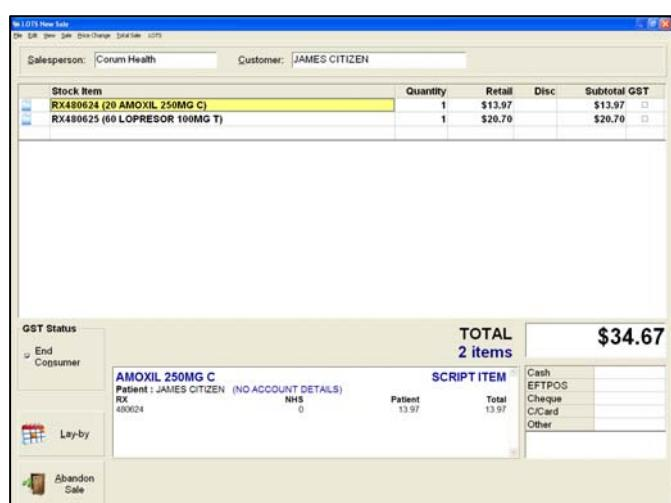

Figure 40
6. The scripts will display within the 'New Sale' screen (as shown in Figure 40).